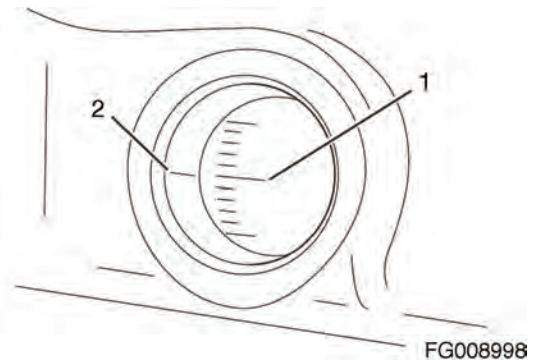

Figure 282
2. Rotate the flywheel until the target timing mark (1, Figure 282) and the timing reference mark (2, Figure 282) on the flywheel housing or back plate are aligned.